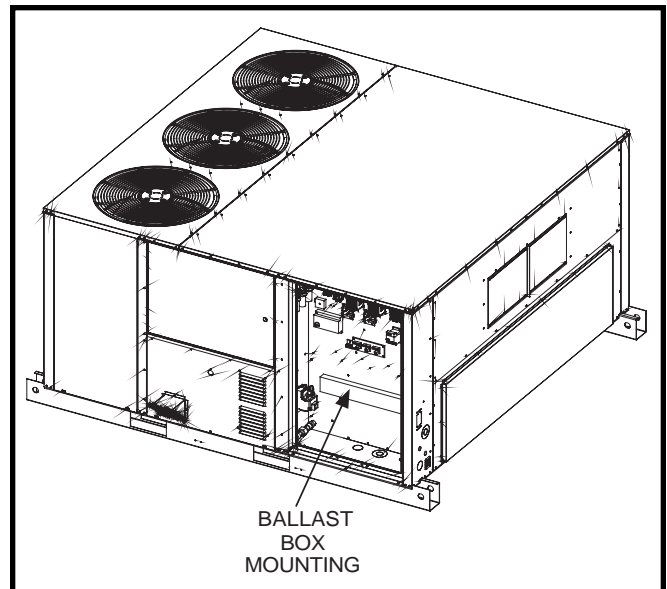

Figure 3
10. Mount Ballast box in lower Control Panel compartment using mounting holes provided. See Figure 3.